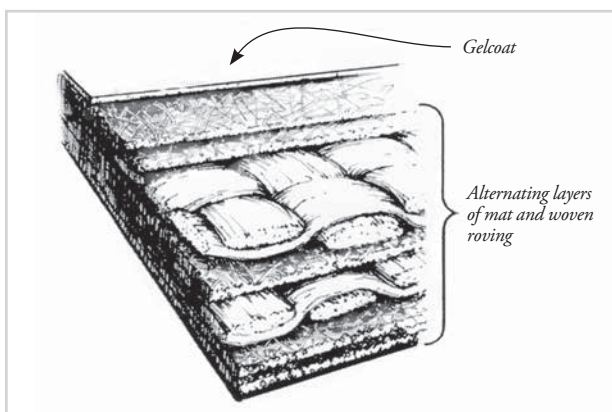

Figure 1-1 Typical solid (single skin) fiberglass laminate. Various reinforcing fabrics are bonded together with polyester resin.
Generally, production fiberglass boat hulls are built in a female mold. A release agent is first applied to the surface of the mold, over which the gelcoat material is applied. Gelcoat is usually a pigmented, unsaturated polyester resin and may be anywhere from 12 to 22 mils thick. It is designed to act as a moisture barrier for the underlying laminate, as well as to provide a smooth, glossy, cosmetic finish. Subsequent layers of fabric are saturated with resin and laid up over the gelcoat. There are as many lay-up schedules as there are boats. A typical hull section might consist of the layer of gelcoat, several alternating layers of mat and woven roving, and in many cases a core material such as end grain balsa or foam, followed by several more alternating layers of saturated mat and woven roving (Figures 1-1 and 1-2). Hull thickness may vary from boat to boat. Older boats were often laid up with a solid glass laminate thickness of 1 1/2" (3.8 cm) to as much as 5" (12.7 cm) in the keel areas of the more heavily-built boats. Today, however, the trend is toward thinner, lighter laminates, making the structural integrity of each of the laminate components all the more critical.
- b. Minor cracks or scrapes that run through the gelcoat into the first chopped strand mat layers of the laminate (Figure 1-1) should be repaired with epoxy using the procedures described below (Section 2.1). Finish with the gelcoat repair technique described later in Section 15.3.3. If necessary, reinforce the laminate to reduce flexing as described in Section 3.6.